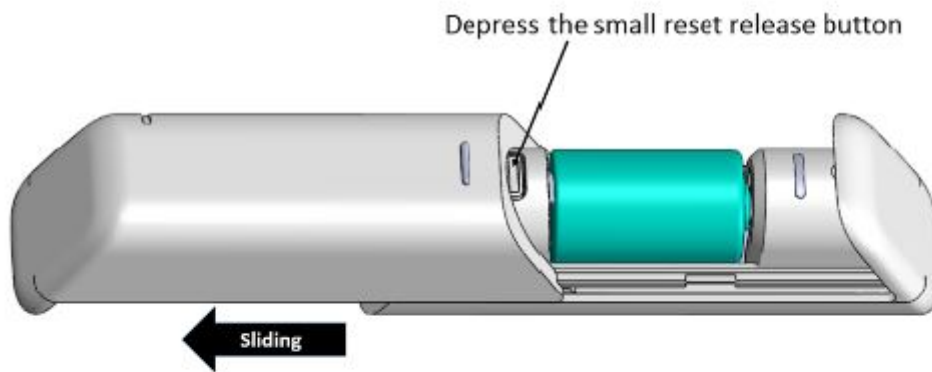

Figure 3
2. Slide the battery cover to expose the battery and the reset release button, Figure 3.